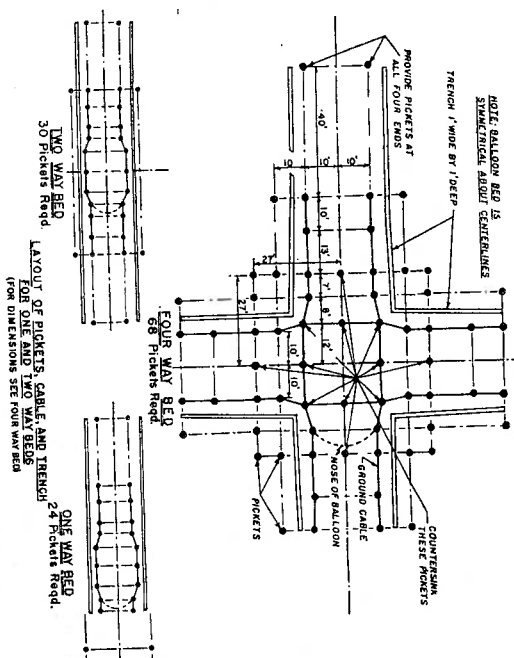

Figure 8.—Lay-out of one-way, two-way, and four-way beds.
■ 5. *Types of Beds.*—a. *One-way bed.*—This type of bed will allow the balloon to be bedded down in one direction. The lay-out of this bed is shown in figure 8.
b. *Two-way bed.*—The two-way bed is an extension of the one-way bed, and will allow the balloon to be bedded down in two directions, 180° apart. A two-way bed may meet the minimum requirements of wind direction with a minimum of material and labor. It has the disadvantage of not providing adequately for shifting wind directions. The lay-out of the two-way bed is shown in figure 8.
c. *Four-way bed.*—A bed of this type will allow the balloon to be bedded down in four different directions, and therefore will keep the balloon nose within at least 45° of the wind direction. For a lay-out of this type bed, see figure 8. The four-way bed also affords a convenient location for a central anchorage. (See par. e.)